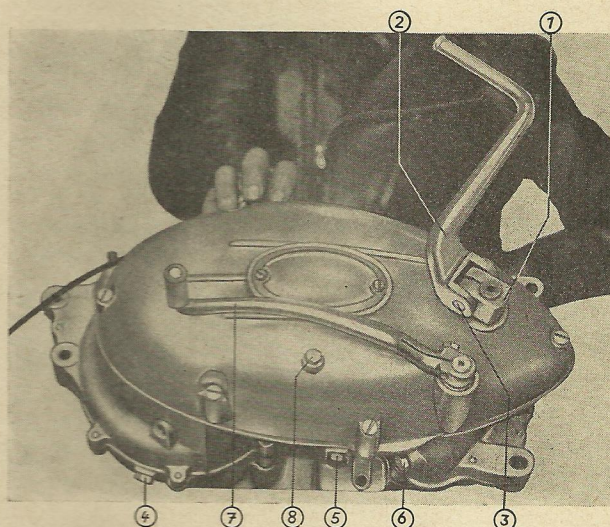

Fig. 18: Engine block, left-hand side, see from below
2. Mount hub (fig. 18/1) of kickstarter crank (fig. 18/2), insert both thrust spring and thrust pin in bore of kickstarter crank and lock the latter by means of its clamping bolt.
- For correct position of the kickstarter crank see fig. 18.
3. Mount foot-operated gear shift lever (fig. 18/7) and clamp it (position as required).
When reassembling is finished, fill the engine up with oil ($\frac{3}{4}$ litre, about 1.5 pint). Oil must flow from the oil-level plug (fig. 18/8) when you check it.